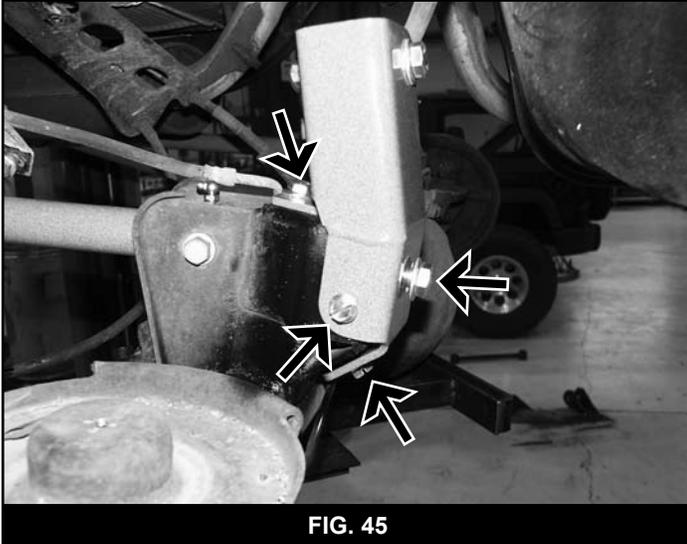

FIG. 45
32. Install a 3/8" x 1" bolt, nut and 3/8" SAE washers (BP 752) in the 3/8" hole. Install a 5/16" x 3/4" self-tapping bolt in the outside hole and a 3/8" x 3/4" self-tapping bolt (BP 752) in the lower hole (Fig 45). Leave hardware loose.